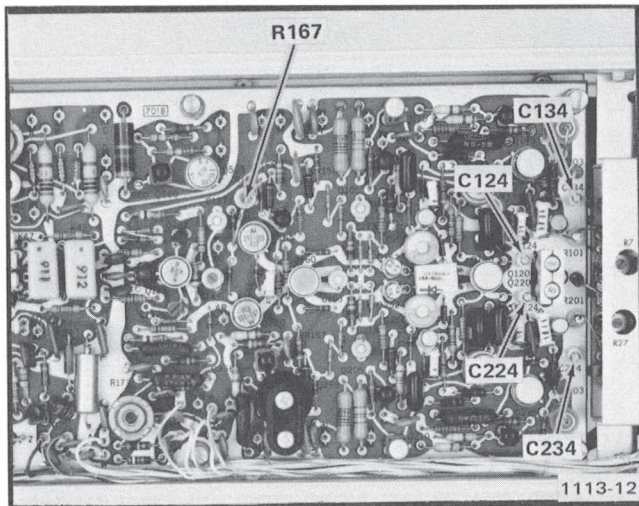

Fig. 5-16. Location of adjustments on the Input board for the Common Mode Rejection Adjustments procedure.
g. ADJUST—C124 and C224 (see Fig. 5-16) to reduce the display amplitude.